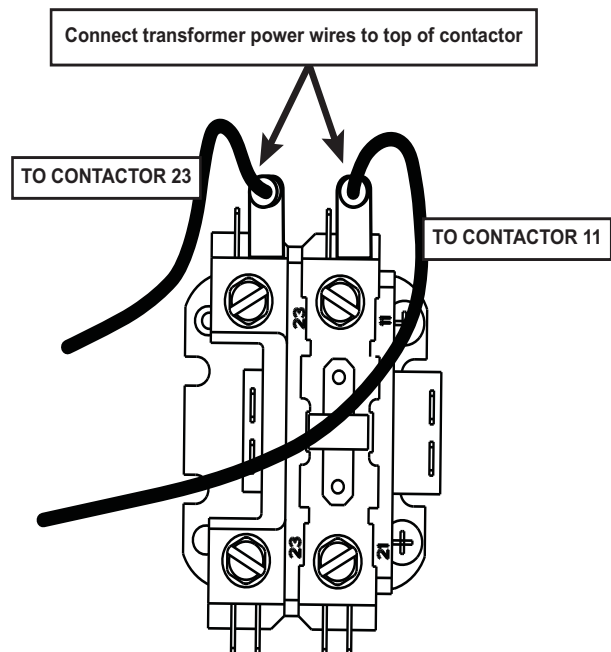

Fig. 3- Contactor Connections
5. Connect the transformer power wires from the kit (CONTACTOR 11, 23) to the top of the contactor in the outdoor unit using the quick connect terminals. (See Fig. 3.)